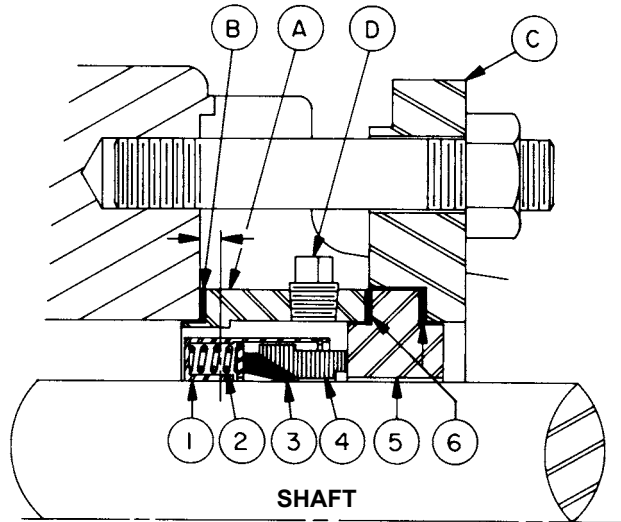

FIGURE 18
Three components are furnished in mechanical seal assembly: Refer to figure 18, item numbers 1 thru 6.
Three pump parts necessary for mounting PTFE mechanical seal are illustrated in figure 18, item letters A, B, C and D.
5. Loosen set screws in mechanical seal retainer cartridge and remove from rotor shaft. Refer to figure 18.
4. Place tapered installation sleeve (if on hand) and install seal on shaft over tapered sleeve. Position seal on shaft inside rotor bearing sleeve bore with end of seal located .19 inch inside machined face of rotor bearing sleeve. **Refer to Figure 18.**
8. Place seat gasket over shoulder of stationary seal seat and insert set into seal plate. Place remaining seat gasket over shoulder of polished surface of stationary seat. **Refer to Figure 18.**